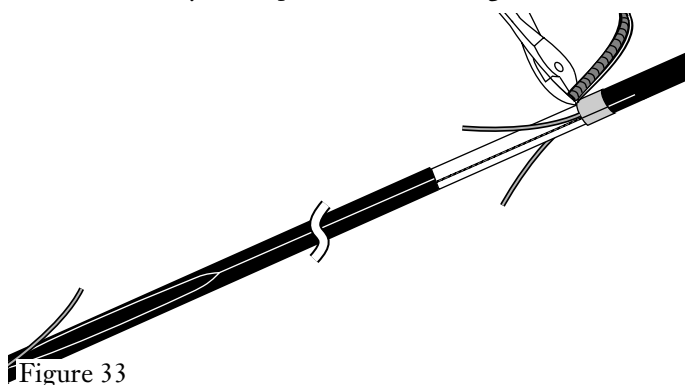

Figure 33
7.17 Remove the two split sections of sheath and armor. Side cutters may be helpful in removal (Figure 33).